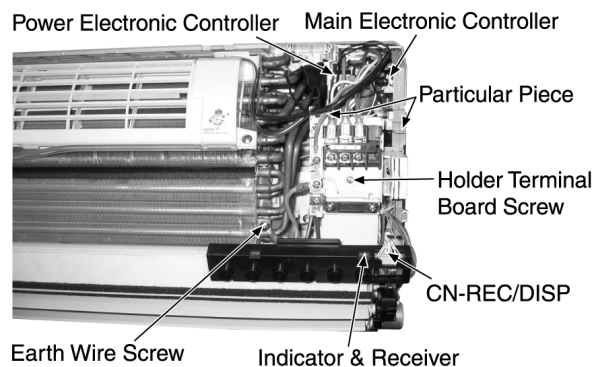

Fig. 3
1. The Electronic Controller, a Signal Receiver and an Indicator (Fig. 3) can be seen by the below steps:
- Release the earth wire screw. (Fig. 3)
- Release the Holder Terminal Board screw. (Fig. 3)
- Release the CN-REC/DISP connector. (Fig. 3)
- Release the 2 Particular Piece. (Fig. 3)